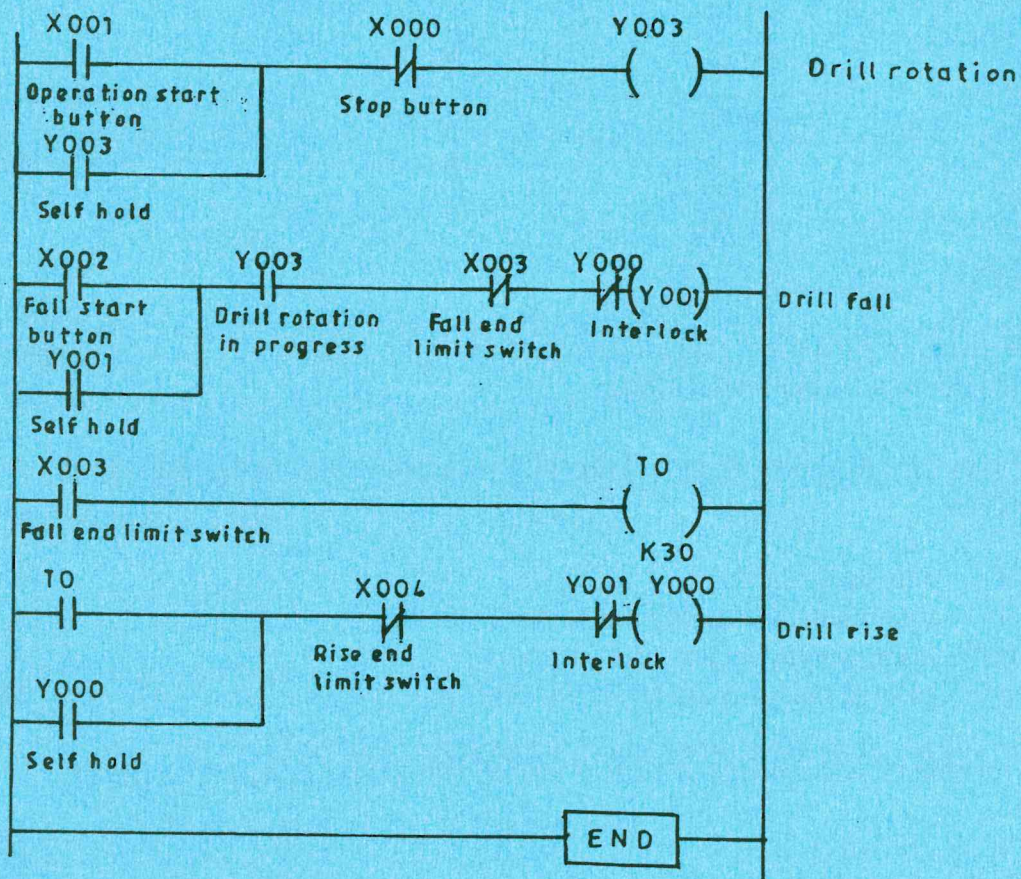

Fig.3
- (c) Figure 3 shows a ladder diagram for controlling a drilling machine using a PLC.